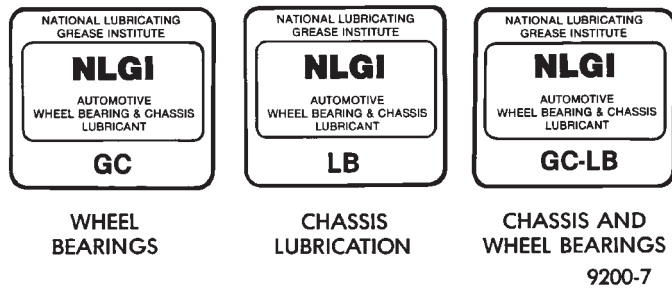

Fig. 2 NLGI Symbol
- National Lubricating Grease Institute (NLGI) (Fig. 2)
Lubricating grease is rated for quality and usage by the NLGI. All approved products have the NLGI symbol (Fig. 2) on the label. At the bottom NLGI symbol is the usage and quality identification letters. Wheel bearing lubricant is identified by the letter "G". Chassis lubricant is identified by the letter "L". The letter following the usage letter indicates the quality of the lubricant. The following symbols indicate the highest quality.